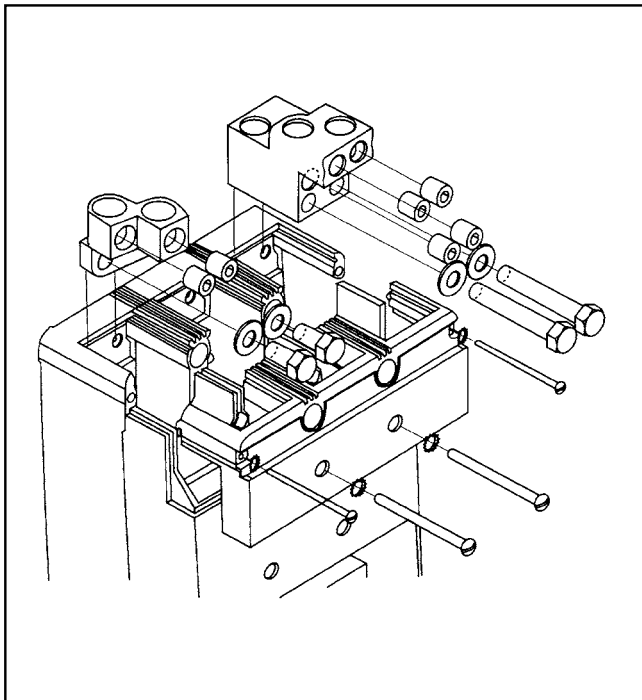
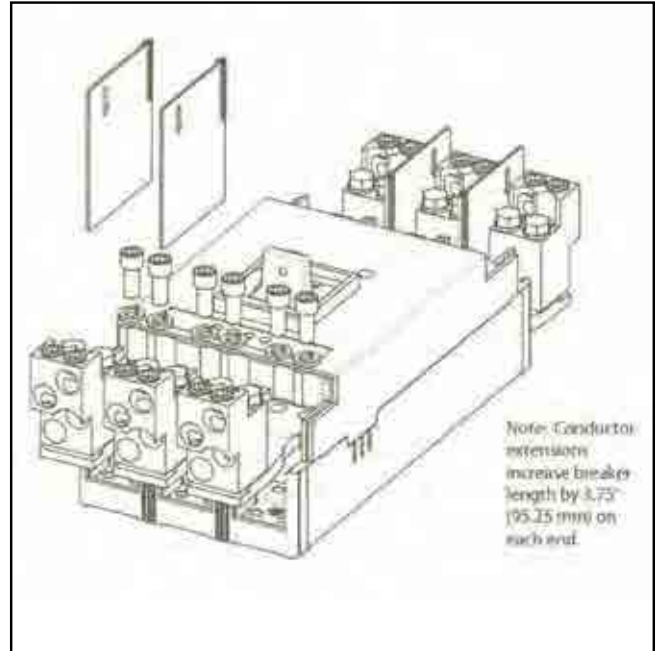
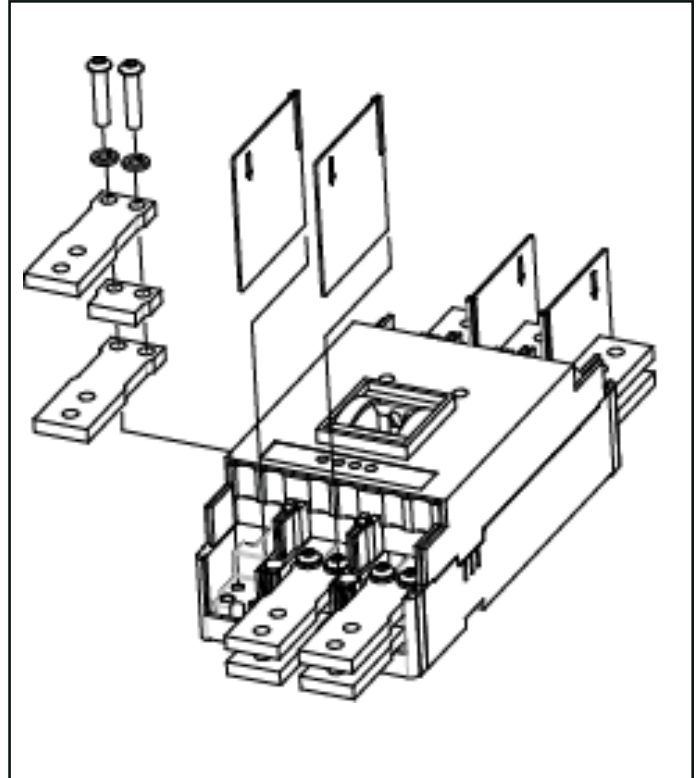

Figure 2-1. Terminal Installation.
Figure 2-2. Conductor Extensions (Purchased Separately).
Figure 2-3a. 1600 Amp Front Connector Installation.
**100 Percent Rated N-Frame Circuit Breaker:** Circuit Breakers with a “C” suffix (-C) in the catalog number are 100 percent rated circuit breakers and are suitable for continuous operation at 100 percent of the frame rating in an enclosure which measures at least 42 in. (1066.8 mm) height, 22 3/4 in. (577.9 mm) width, and 11 1/2 in. (292.1 mm) depth. The 800 A version requires no enclosure ventilation. The 1200 A version requires 224 in2 (144,510 mm2) ventilation on the front face of the enclosure (72 in2 (44,451 mm2) bottom, 40 in2 (25,806 mm2) left and right. The 1200 A version also requires conductor extensions and terminal barriers (supplied with 100 percent rated breakers) as shown in Figure 2-2. Use only 90°C (194°F) rated wire with ampacity based on 75°C
Connect the supplied line and load conductor extensions as shown in Figure 2-2. For a four pole breaker do not connect the conductors extensions to the neutral pole.
If not already installed, mount terminals as shown in Figure 2-1 (100 Percent Rating Figure 2-2). To do this, the terminal cover screws must first be loosened and the terminal covers removed (see Fig. 2-3a for 1600 A Front Connect).
After the circuit breaker is installed and all connections are made, check all mounting hardware and terminal connection hardware for torque loading. Torque values for line/load terminal lugs are given on table in Figure 2-1. Torque mounting screws for terminals, bus connections and front conductor extensions to 30-35 lb-ft. (41-47 Nm).